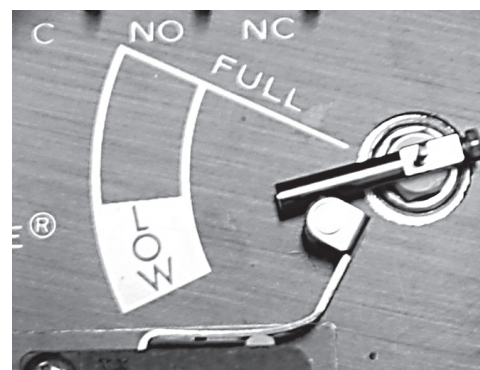

Figure 2.
4. Calibrate the microswitch by holding the microswitch arm down and bending the end of the arm up with needle nose pliers. (See Figure 2)
5. Hold the unit in hand, and move the float down while listening for the microswitch to “click”. Microswitch should “click” when pointer is between the L and O in the word LOW as shown in Figure 2.